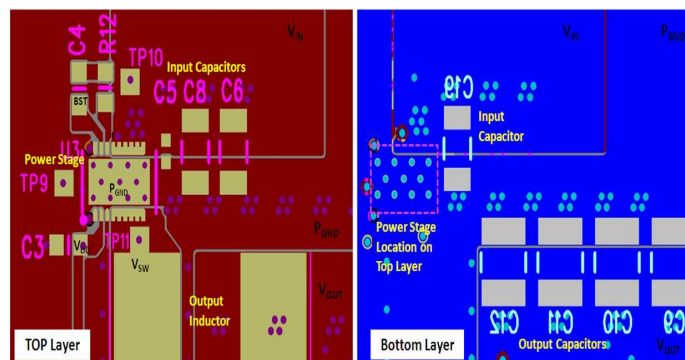

Figure 16. Recommended PCB Layout (Top-Down View)
- The placement of the input capacitors relative to V_{IN} and P_{GND} pins of the CSD95377Q4M device should have the highest priority during the component placement routine. It is critical to minimize these node lengths. As such, ceramic input capacitors need to be placed as close as possible to the V_{IN} and P_{GND} pins (see Figure 16). The example in Figure 16 uses 1 × 1-nF 0402, 25-V and 3 × 10-μF 1206, 25-V ceramic capacitors (TDK part number C3216X5R1C106KT or equivalent). Notice there are ceramic capacitors on both sides of the board with an appropriate amount of vias interconnecting both layers. In terms of priority of placement next to the power stage C5, C8, C6, and C19 should follow in order.
- Use the smallest drill size allowed in your design. The example in Figure 16 uses vias with a 10-mil drill hole and a 16-mil capture pad.